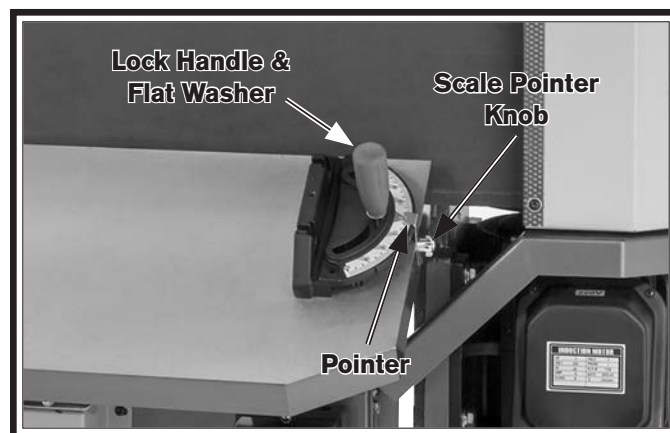

Figure 44. Miter stop removal components.
1. Remove lock handle and flat washer shown in **Figure 44**.
2. Remove scale pointer knob shown in **Figure 44** to remove pointer.